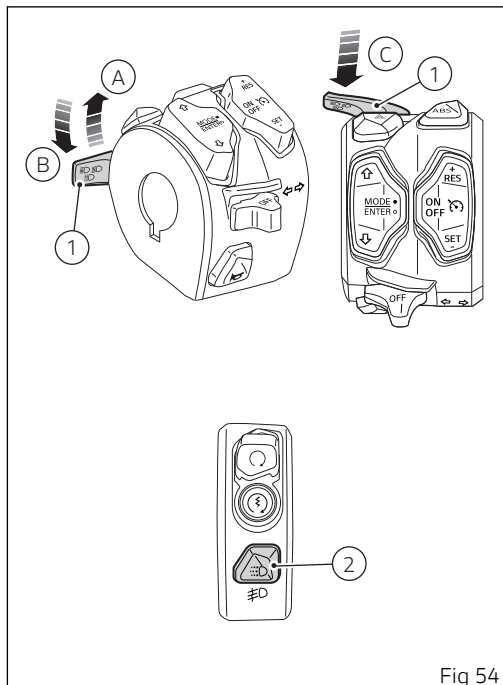

Fig 54
When the DRL are set to "Auto" mode, the corresponding warning light (16, Fig 76) will turn on. By pressing button (2, Fig 54) DRL are turned off; by pressing again button (2, Fig 54) DRL turn on with control strategy set to "Manual".
If DRL have been set in "Manual" mode (see page 230), to turn off or on the DRL, use button (2, Fig 54). When the DRL are set to "Manual" mode, the corresponding warning light (17, Fig 76) will turn on.
- if DRL are present, press and hold button (2, Fig 54) for a long time;
- if DRL are not present, press button (2, Fig 54).